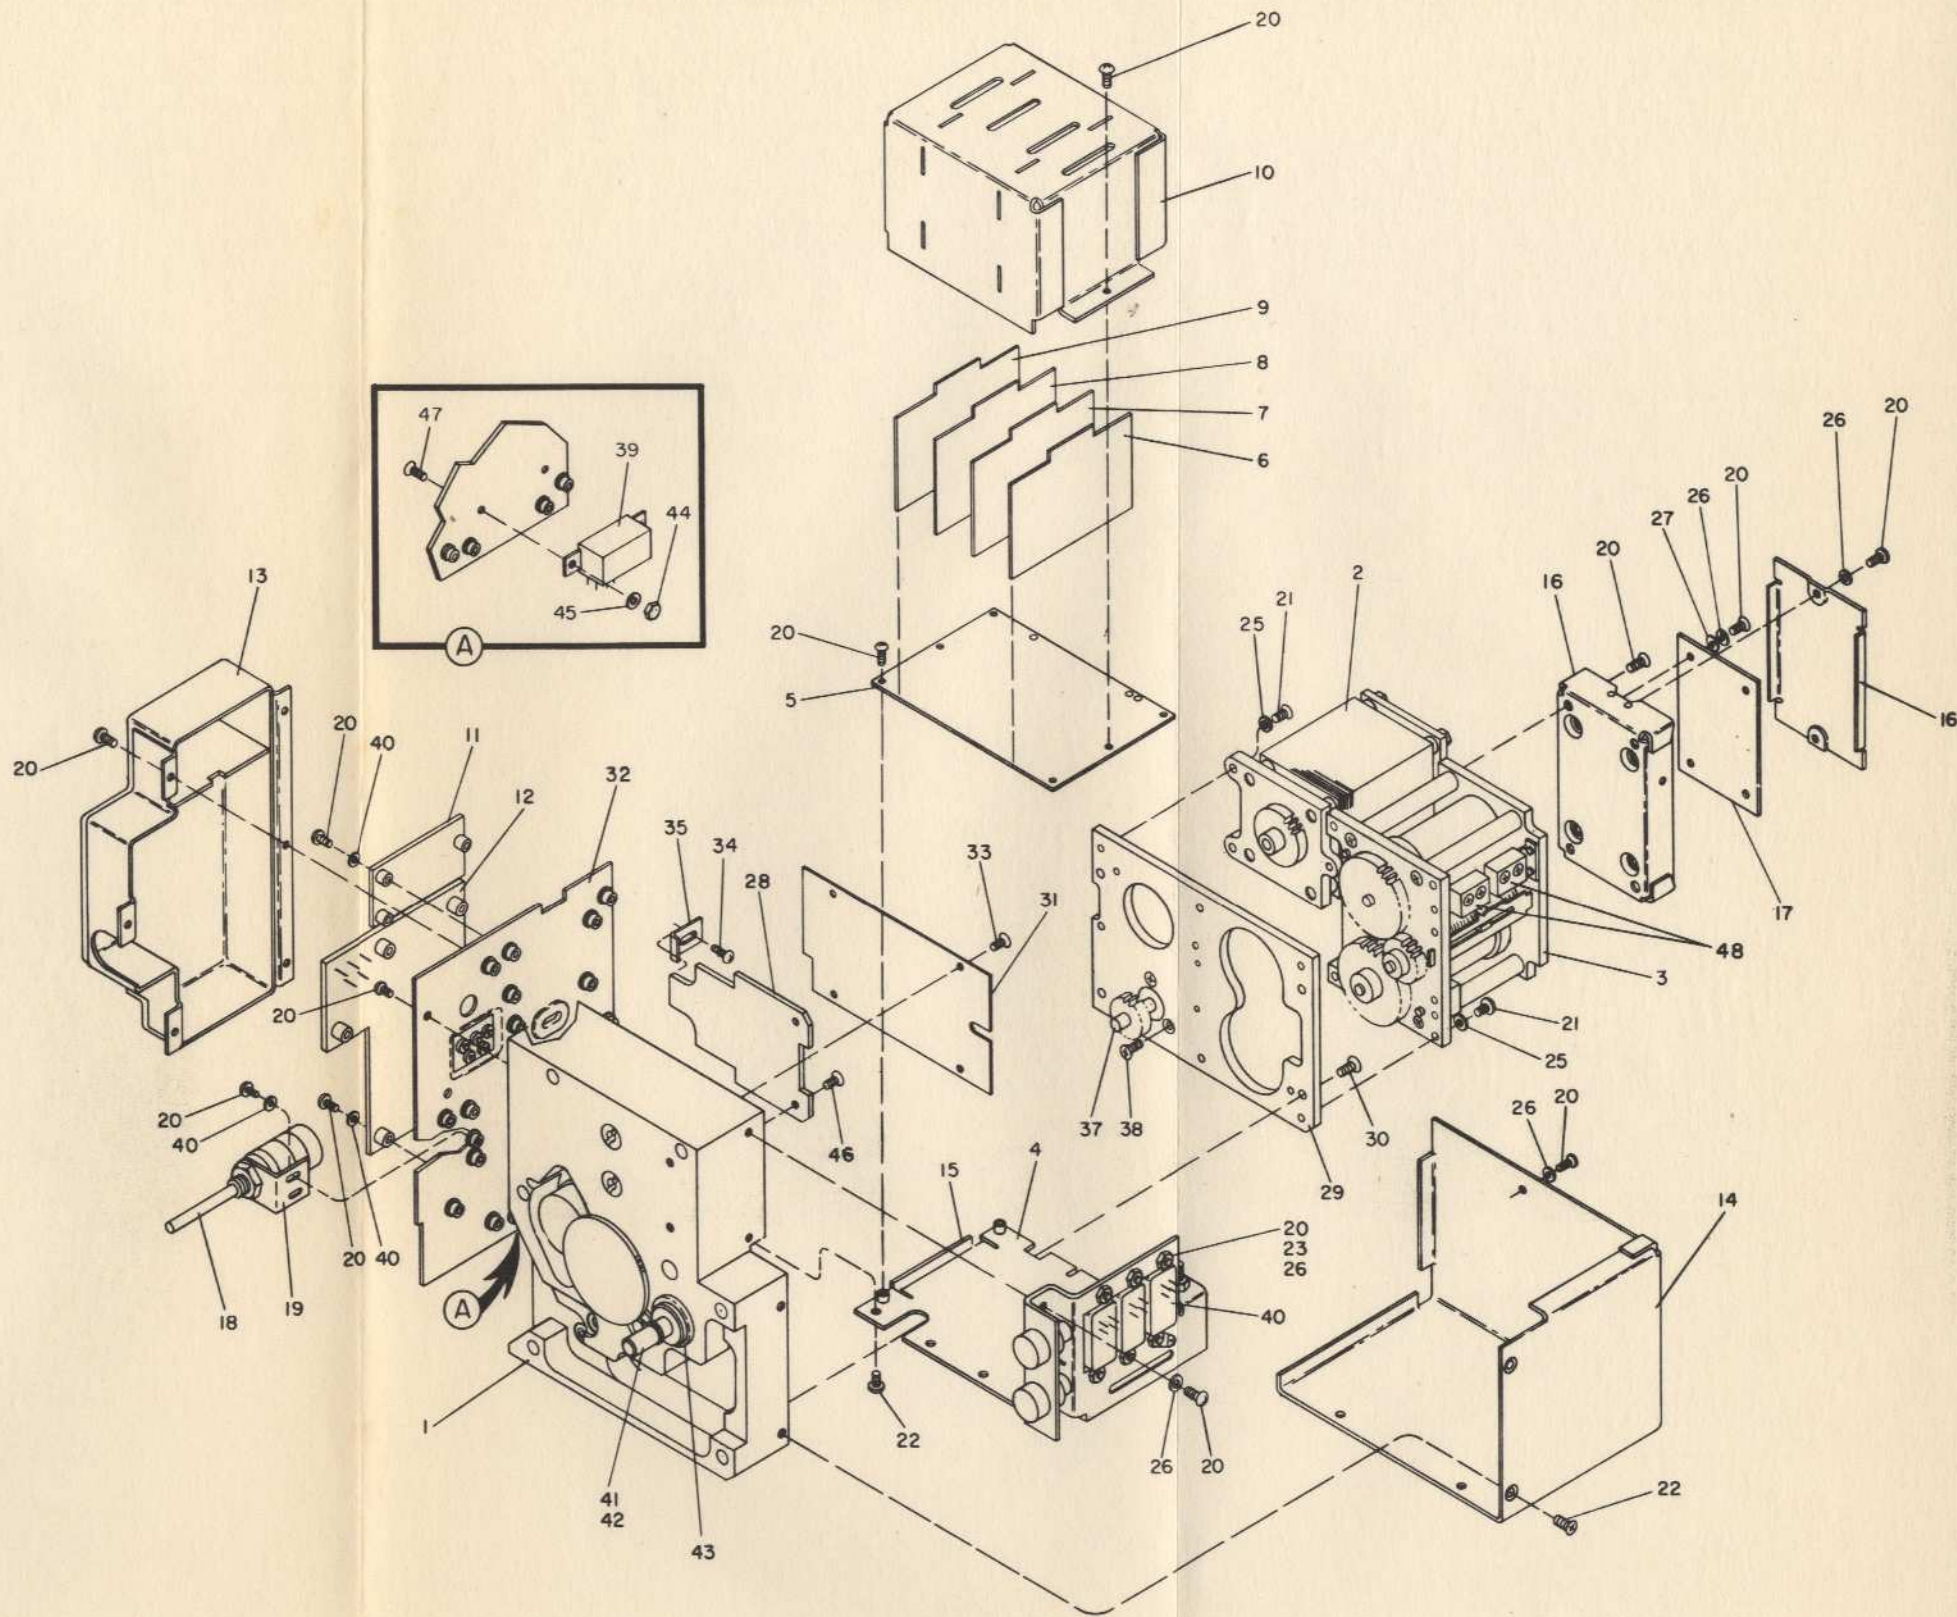
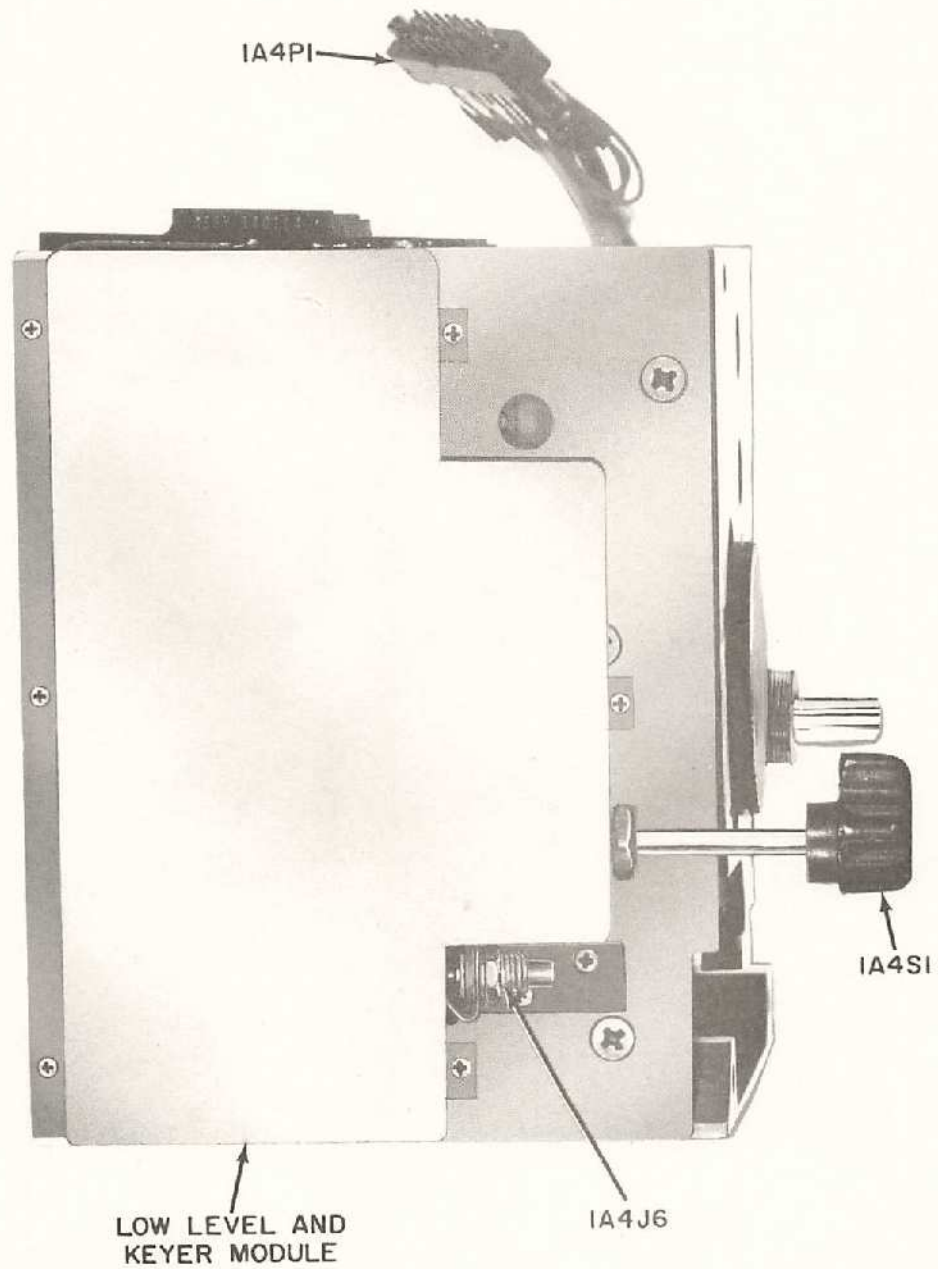
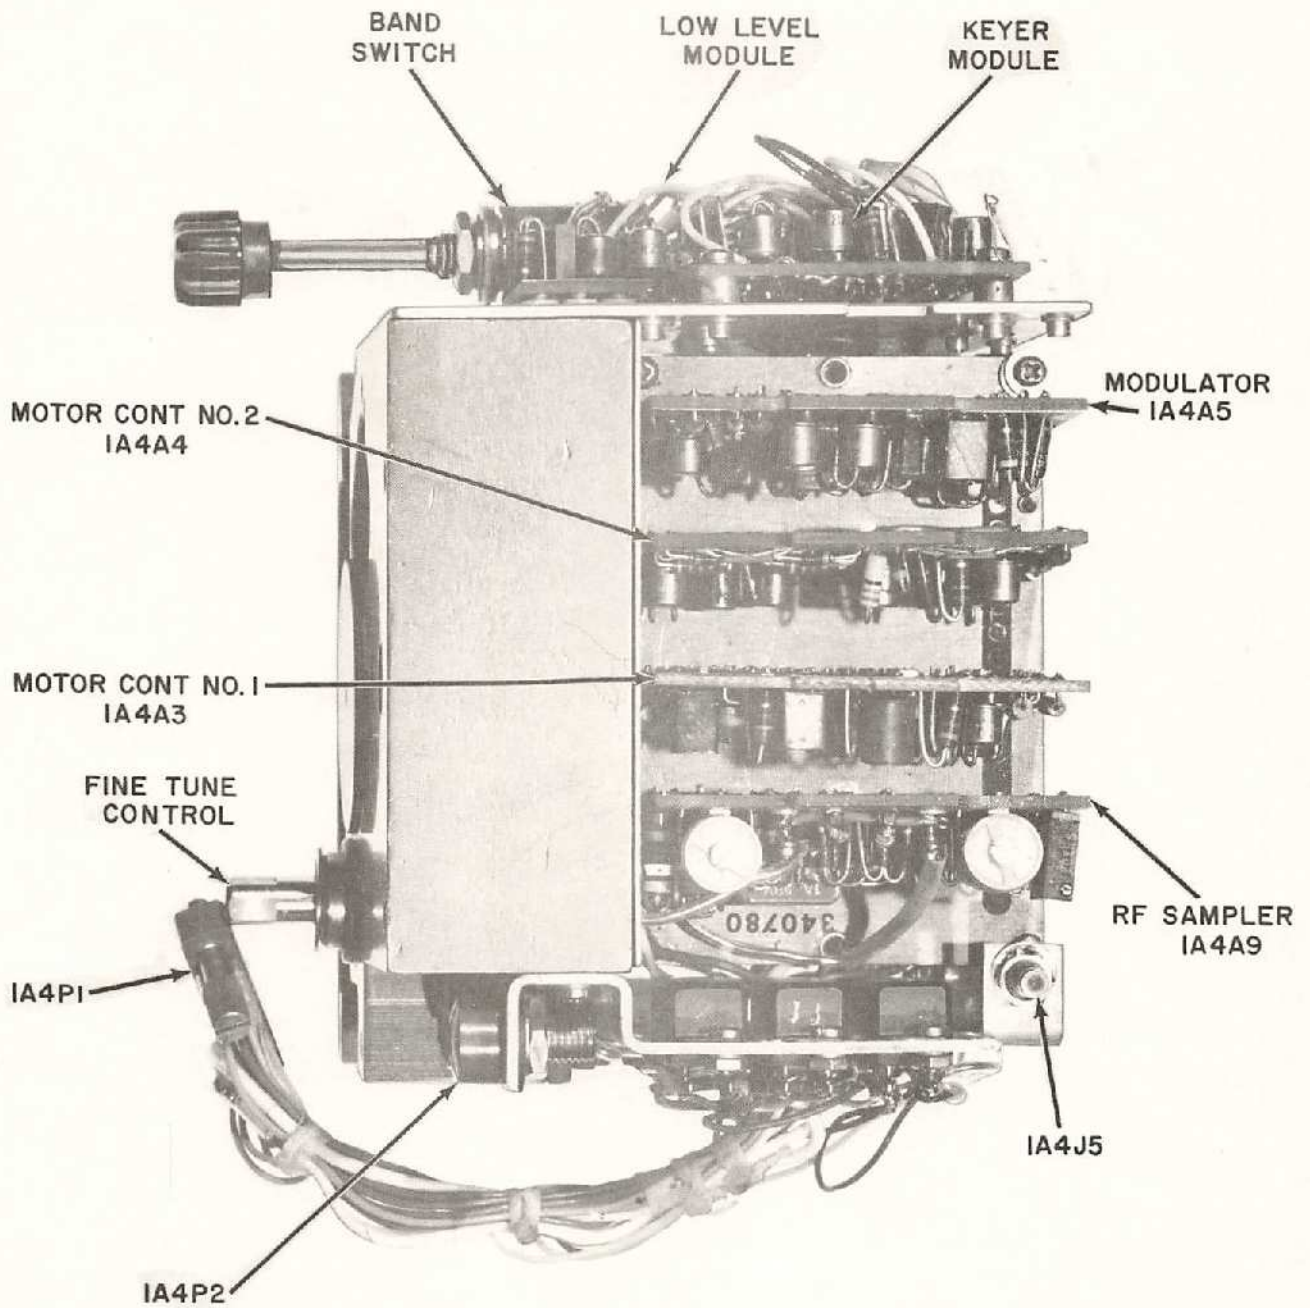

Figure 5-14. Transmitter Assembly
Figure 5-15. RT-224 Low Level Module and Keyer Module (shield installed)
Figure 5-17. RT-224 Module Location (bottom view)
- (1) Place the front panel face side down.
- (2) Place a thin coating of Wakefield thermal compound on that portion of the transmitter that mates with the front panel.
- (3) Place the transmitter onto the front panel making sure the shafts and antenna connector fit their holes (figure 5-14) and that the O-ring is in place on the tune shaft bushing collar.
- (4) Replace 1A4P1.
- (5) Reconnect RF connector 1A1A2P1 to 1A4J6 (figure 5-15).
- (1) Remove 7 screws holding the module cover (13) in place (figures 5-14 and 5-16).
- (1) Remove seven screws (20) holding the module cover (13) in place (figures 5-14 and 5-15).
- (2) Remove three screws securing the module to the transmitter chassis (figures 5-14 and 5-15).
- (1) Resolder the 10 tagged wires removed in the previous paragraph.
- (2) Position the module on the chassis and replace the three screws securing it to the transmitter chassis (figures 5-14 and 5-15).
- (3) Replace the module cover (figures 5-14 and 5-15).
5.15 1A4A2 RF Sampler Module, 1A4A3 Motor Control Module, 1A4A4 Motor Control Module, and 1A4A5 Modulator Module Removal and Replacement (Refer to figure 5-14)
a. Removal. The removal of modules 1A4A2, 1A4A3, 1A4A4, and 1A4A5 is identical, except for the RF sampler module 1A4A2 (figure 5-17). Access to the module is gained by removing the two screws and the cover and pulling the modules out of the parent board 1A4A9 for servicing or replacement. When removing the RF sampler module 1A4A2, the two wires for the RF input and RF output must be unsoldered before the module can be removed (figure 5-17).
b. Replacement. The replacement of modules 1A4A2, 1A4A3, 1A4A4 and 1A4A5 is identical except for module 1A4A2. The modules are placed over the guide pins and pushed down to mate with the parent board connector (figures 5-14 and 5-17). Module 1A4A2 is inserted in the same manner but the two wires, RF input and RF output, must be resoldered (figure 5-17). After replacing all the modules, the cover (10) and the two screws are replaced.
5.16 Antenna Tuning Module 1A4A1 Removal and Replacement (Refer to figure 5-14)
- (1) Remove the two screws securing the cover (19) (figure 5-14).
- (2) Unsolder the RF input and output wires.
- (3) Remove the four screws (26) securing the board (19) to the can (18).
- (4) Unsolder the d-c output wire.
b. Antenna Tuning Module Replacement (Refer to figure 5-14)
- (1) Solder the d-c output wire to the board (19).
- (2) Replace the board and the four screws in the module can (18).
- (3) Resolder the RF input and output wires.
- (4) Replace the cover (19) and its two screws.
- (5) Replace the matching network shield (15).
5.17 Antenna Matching Network Removal and Replacement (Refer to figure 5-14)
- (1) Remove cover from modules 1A4A2, 1A4A3, 1A4A4, and 1A4A5 (figure 5-17).
- (2) Remove modules 1A4A2, 1A4A3, 1A4A4, and 1A4A5 as outlined in paragraph 5.15a.
- (3) Remove four screws securing the parent board to the chassis.
- (4) Tilt the module up and rotate it 180 degrees away from the transmitter for servicing, or tilt it out and unsolder and tag the wires for removal.